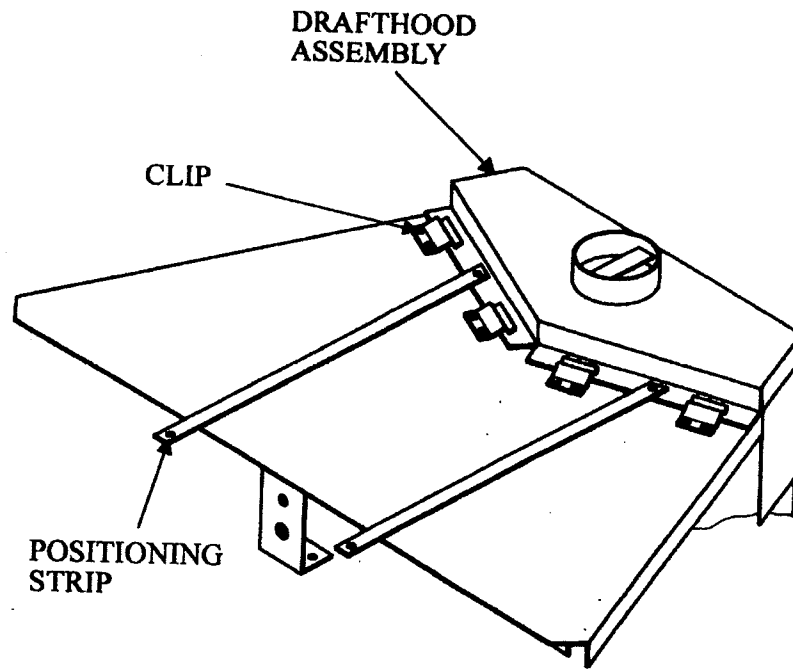

Figure 11 Drafhhood Mounting
8. Push the heater back until the front firebox flanges are 1/4" (6mm) in front of the masonry or factory built fireplace facing, or flush with the zero clearance enclosure. As the heater is pushed back, pull the draft hood positioning strips firmly toward the heater front until the draft hood flange is secured under the top clips of the heater as shown in Figure 11.